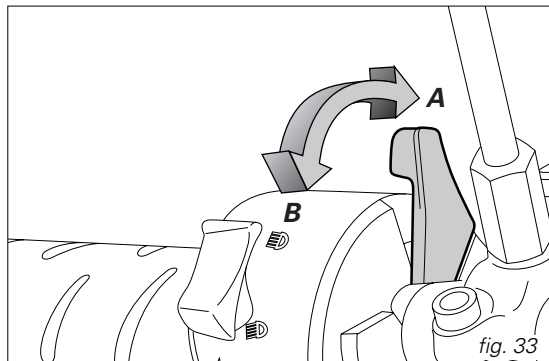

fig. 33
- 2) Move the fast-idle lever to position (B) (fig. 33).